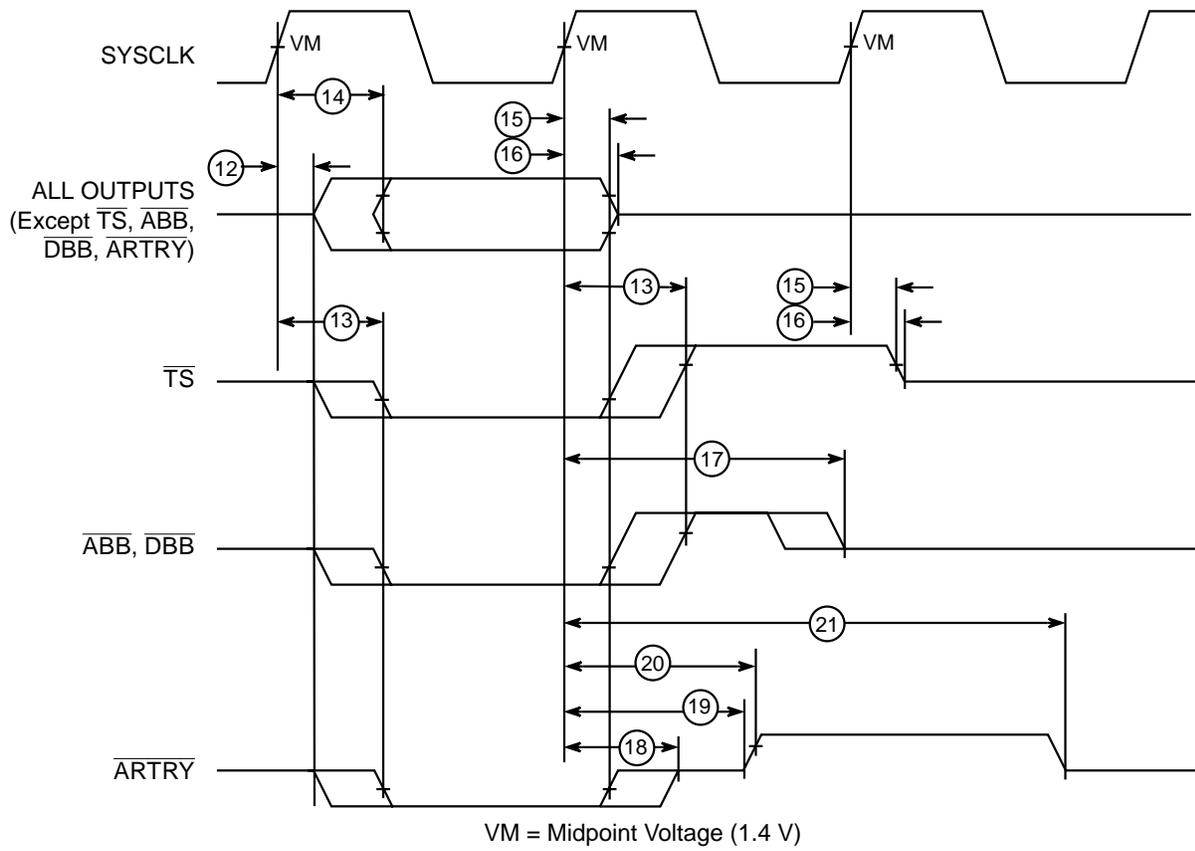

Figure 4. Output Timing Diagram for 603e and EM603e
Table 9 provides the output AC timing specifications for the 603e and EM603e as defined in Figure 4.
1. All output specifications are measured from the 1.4 V of the rising edge of SYSCLK to the TTL level (0.8 V or 2.0 V) of the signal in question. Both input and output timings are measured at the pin (see Figure 4).
Figure 4 provides the output timing diagram for the 603e and EM603e.